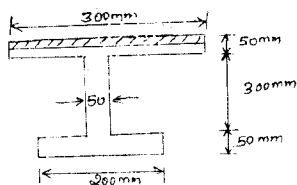

Fig. Q5 (b)
- b. A Cast iron bracket, subjected to bending has a cross section of I-shape with unequal flanges, as shown in Fig.Q5(b). If the section is subjected to a shear force of 1600 kN, draw the shear stress distribution over the depth of the section, indicating principal values. (14 Marks)